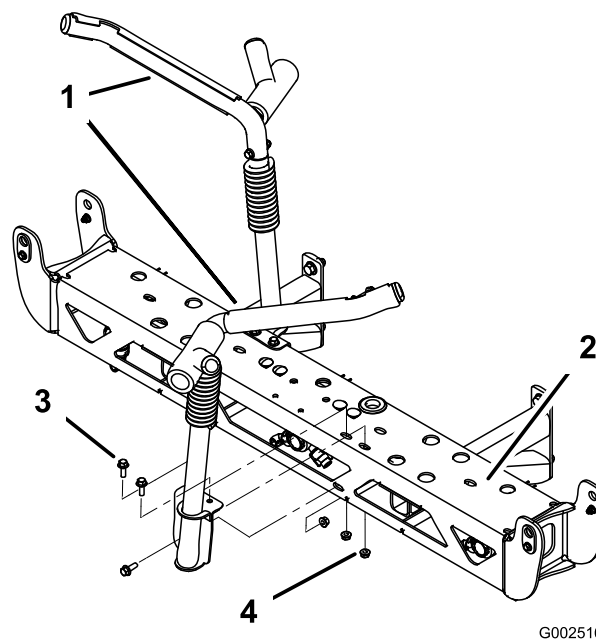

Figure 25
2. Install the boom transport cradles to the center boom using 6 bolts (3/8 x 1-1/4 inches) and 6 lock nuts (3/8 inch). Orientate them as shown in Figure 25